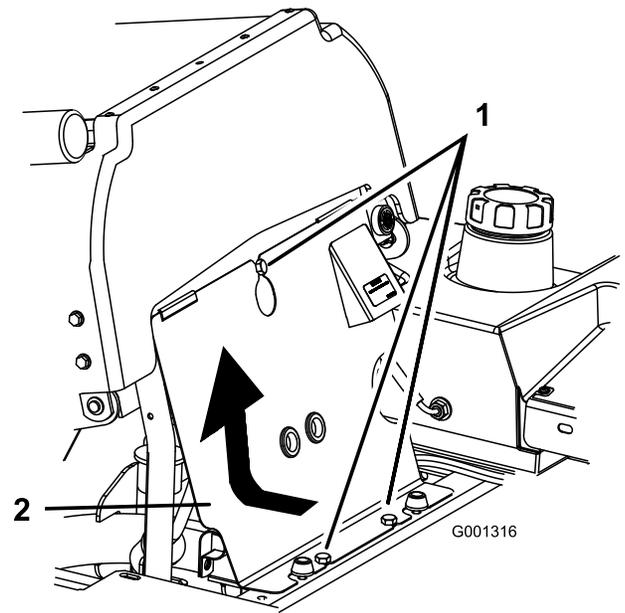

Figure 42
1. Tilt the seat forward, loosen the bolts and remove the front engine panel (Figure 42).